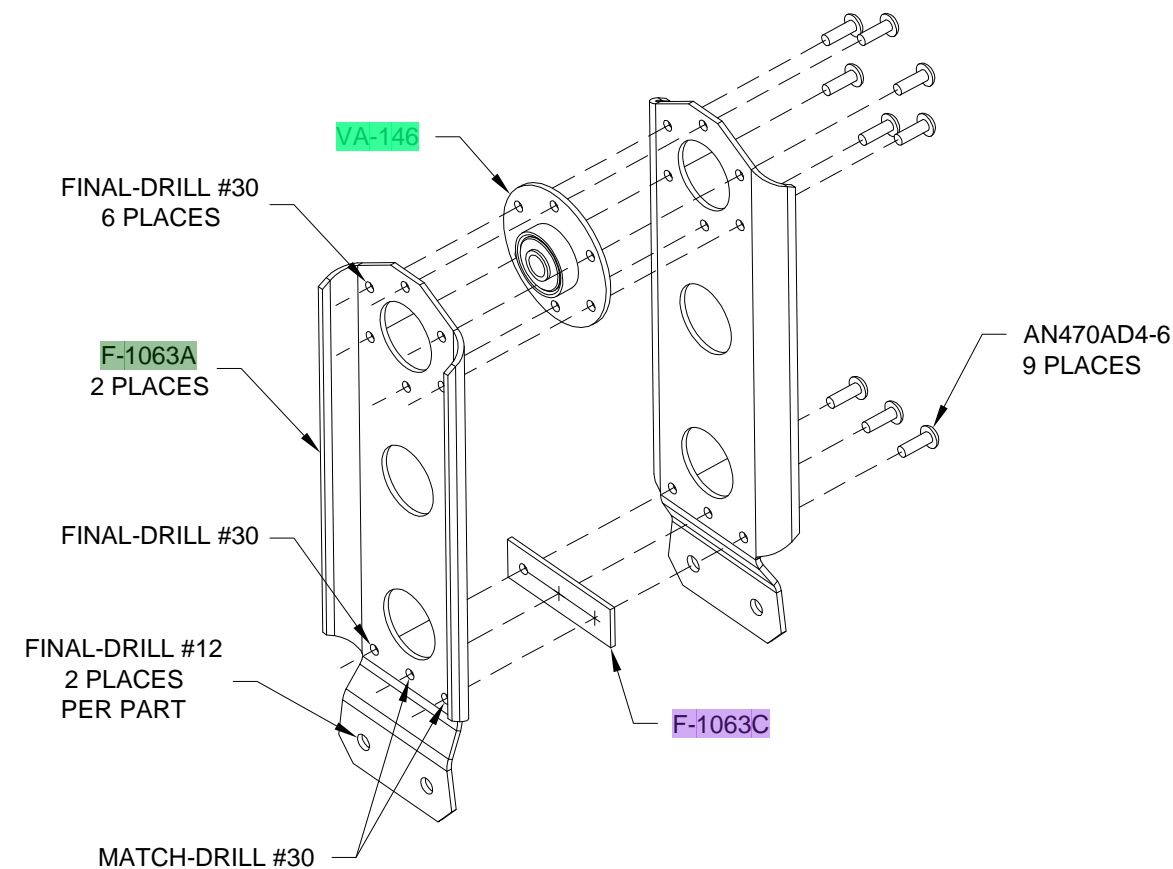

FIGURE 2: DRILL AND RIVET ELEVATOR IDLER ARM
Step 2: Cleco the two F-1063A Elevator Idler Arms, the F-1063C Spacer, and the VA-146 Flange Bearing together as shown in Figure 2. Adjust the spacer so that the centerline intersects the centers of the two pre-punched holes in the elevator idler arm. Match-Drill and final-drill as per the callouts. Disassemble and deburr all holes and edges. Prime if/as desired. Rivet the assembly together using the hardware shown in Figure 2.